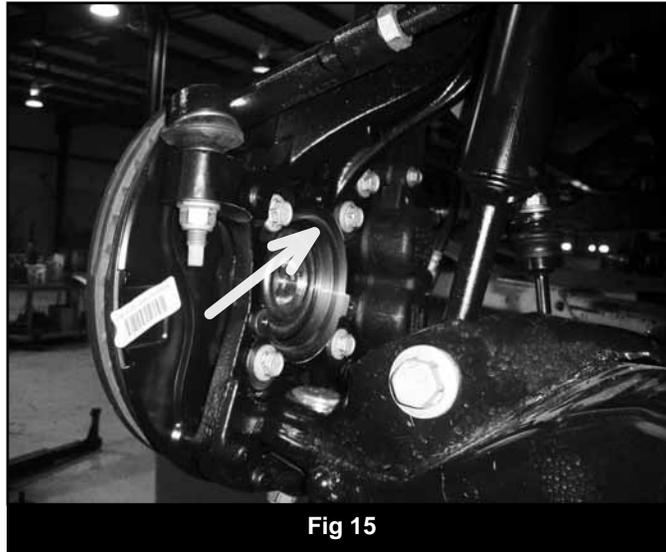

Fig 15
42. Install the brake rotor and caliper to the knuckle with OE bolts. Torque to 148 ft-lbs. (Fig 15)